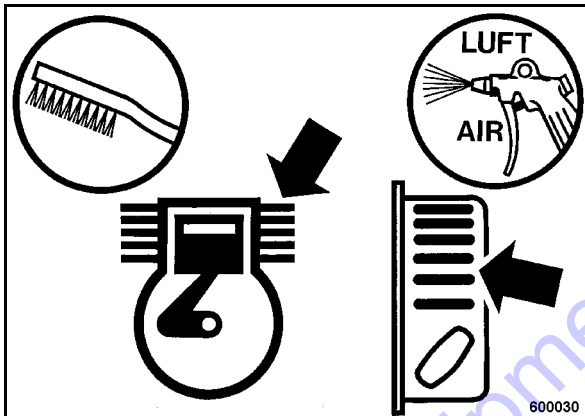

Fig. 46
- Loosen dried on dirt with a suitable brush (Fig. 46) from all cooling fins and cooling air intake openings and blow it off with compressed air.